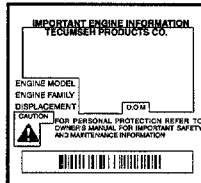

Figure 1
B. Clean area around oil fill cap (see Figure 1).
- B. Be sure spark plug wire is attached to spark plug (see Figure 1).
- Ignition key (if so equipped see Figure 2) is inserted into ignition keyslot in carburetor cover (see Figure 1).
① RECOIL STARTER (see Figure 1):
D. Grasp starter handle (see Figure 1) and pull rope out, slowly, until it pulls slightly harder. Let rope rewind slowly. Then pull rope with a rapid full arm stroke. Let rope return to starter slowly.